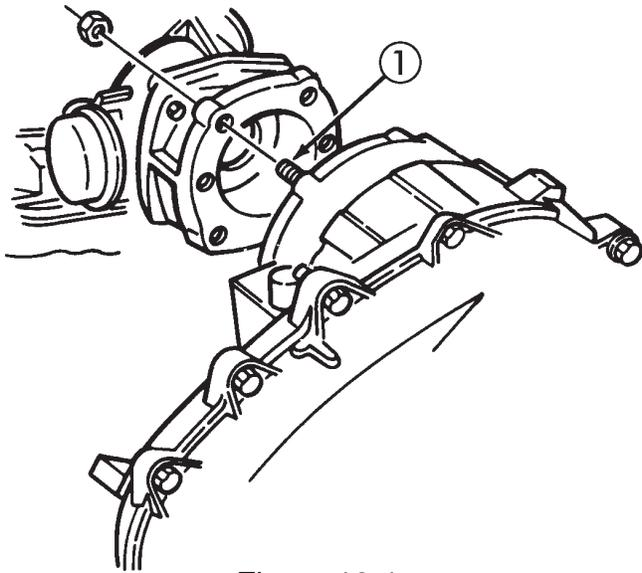

Figure 10-1.
A. TRANSFER CASE HOUSING STUDS (Figure 10-1)